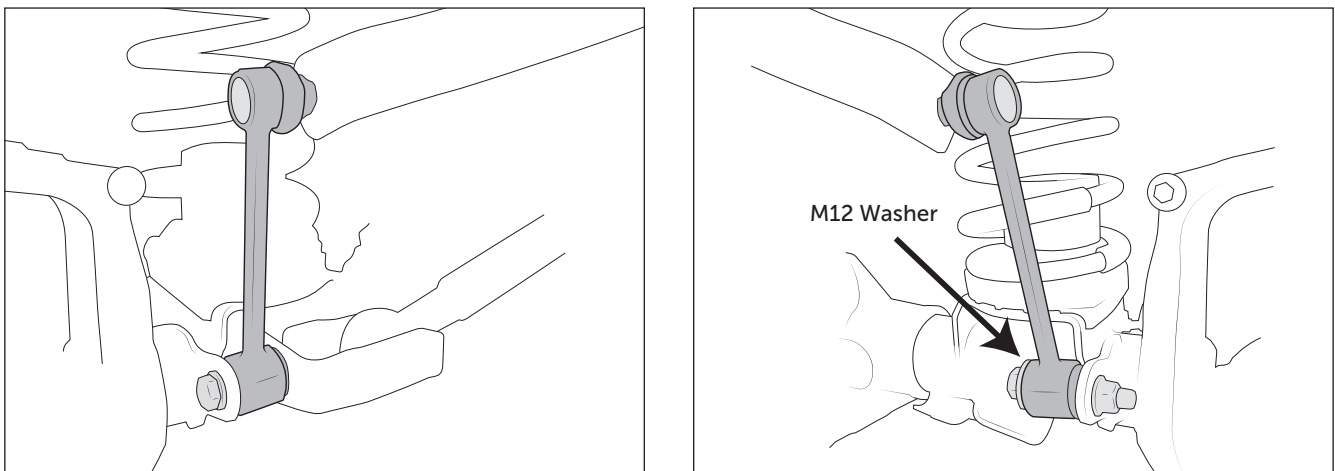

Figure 19
- A. For each side attach the upper end stud to the sway bar in the same manner as the original front links had been (nut on frame side of bar). NOTE: The upper stud has a different thread than the rest of the M12 fasteners in the suspension—it is a “standard” pitch versus a “fine pitch.” Tighten to 40 ft-lbs. (Fig. 19).
- B. The lower ends of the links will attach in the factory location using the original hardware, with AEV-provided washer added to the inboard side of driver side link only (Fig 19). Washer is not needed on passenger side because it has brackets on both sides of bushing. Torque to 40 ft-lbs.